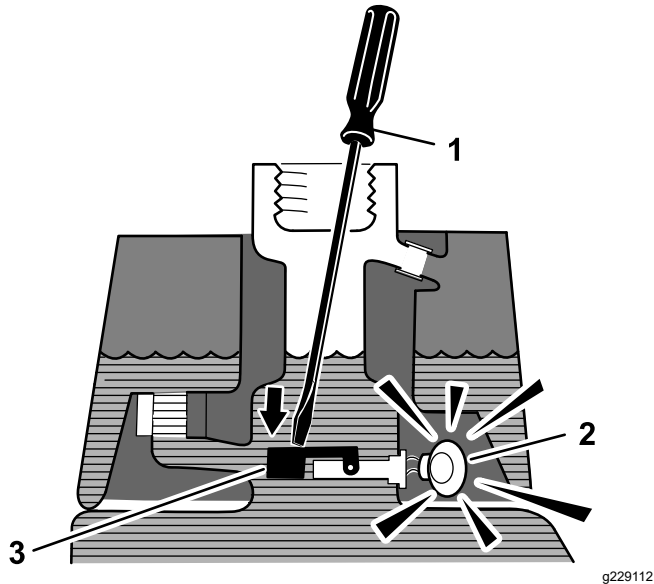

Figure 50
3. Insert a clean rod or screwdriver into the tank neck and gently push down on the float switch (Figure 50); the alarm should sound after the 1-second delay.